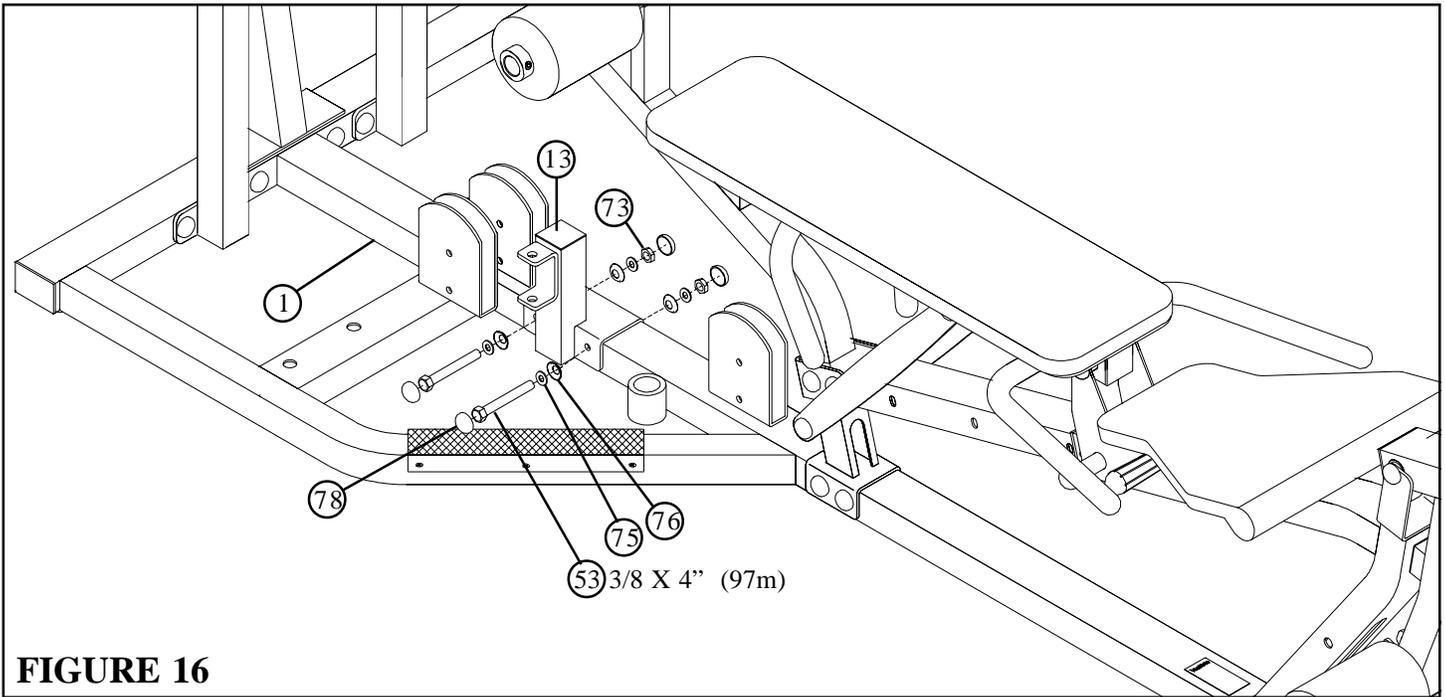

**FIGURE 15**
- Assemble two 5 x 8" ROLLER PADS (39) and four 2-3/8" OD PLASTIC WASHERS (32) to the UPRIGHT SUPPORT (6) using two 1-1/4" SHAFT COLLARS (51) and one 21-1/2" ROLLER PAD TUBE (19) as shown in FIGURE 15.
- Once the 5 X 8" ROLLER PADS (39) are assembled to the UPRIGHT SUPPORT (6), **SECURE** the 21-1/2" ROLLER PAD TUBE (19) with the two 5/16 x 1/4" SET SCREWS.